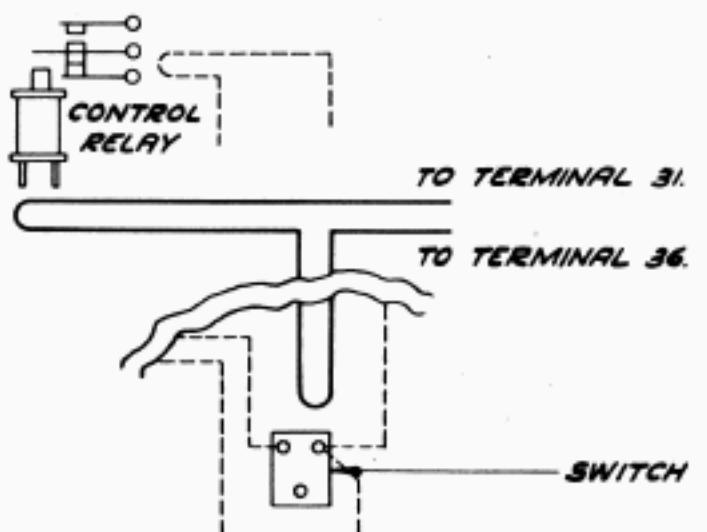

FIGURE 4
- 3. In order to render the motor control relay inoperative, wiring changes at the control relay and switch are necessary, as shown in Figure 4.